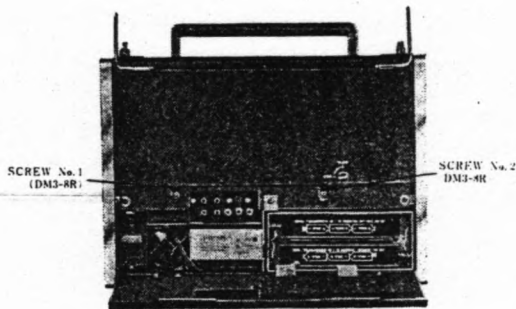

Fig. 1
2. Remove four (4) control knobs from cabinet.
5. Remove two (2) red cabinet back cover mounting screws (Nos. 1~2) in Fig. 1.